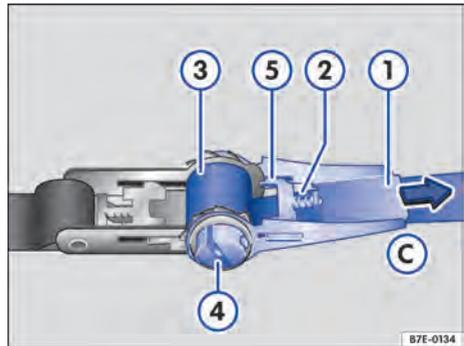

Fig. 143 Tightening the ratchet strap.
2. Press the slider → Fig. 143 ② outwards.
3. Pivot the lever → Fig. 143 ① to position C until the slider ② engages in the end position ⑤. The spool ④ now rotates freely.